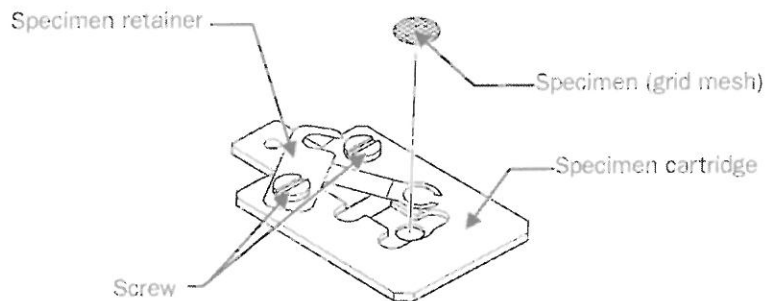

Fig. 5.6 Removing the specimen
2. Loosen the specimen retainer screws; rotate the specimen retainer; then remove the specimen (Fig. 5.6).